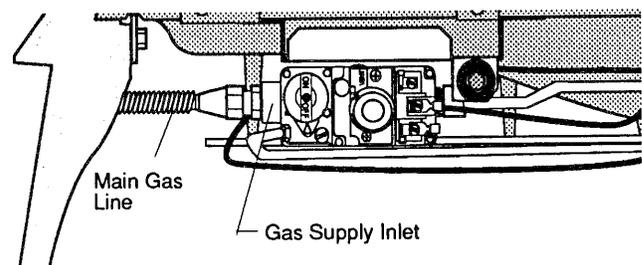

Figure 34. The gas supply line connects to the inlet to the left of the control valve.
Step 1. Connect the main Gas Supply to the control valve inlet. Fig.34. A 1/8-inch N.P.T. plugged tapping, accessible for test gauge connection, must be installed on the inlet gas connection.